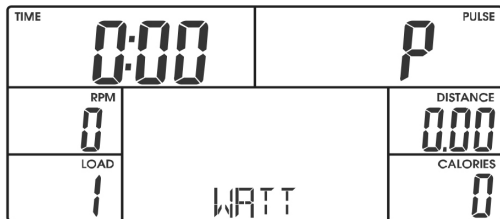

Figure 27
2. Select the WATT mode with +/- buttons and confirm with MODE (see fig. 27).